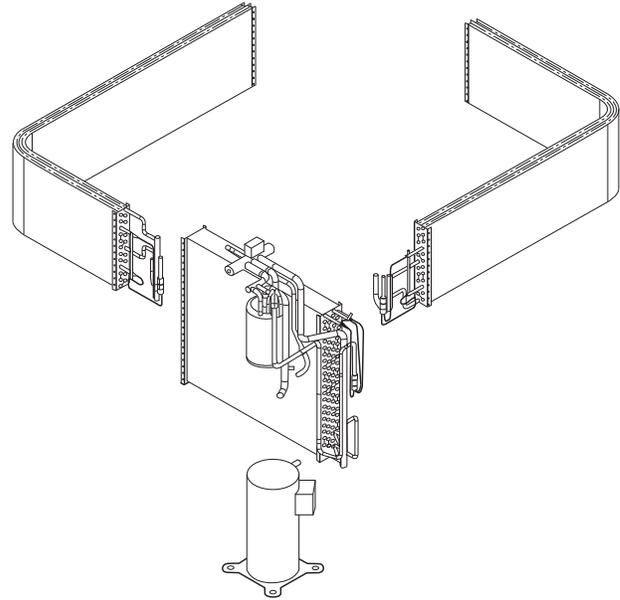

Fig. 22 - Refrigerant Circuit
- a. Remove blower access panel (see Fig 22).
Remove access panels (see Fig 22) to locate all the electrical controls and wiring. Check all electrical connections for tightness. Tighten all screw connections. If any discolored or burned connections are noticed, disassemble the connection, clean all the parts, restrip the wire end and reassemble the connection properly and securely.